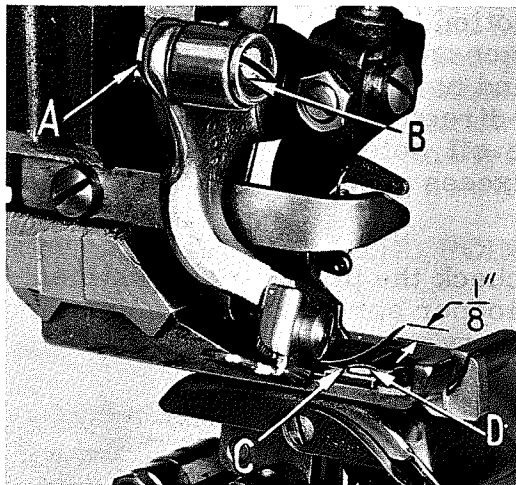

Fig. 7
Normal needle stroke setting is correct when the point protrudes approximately $\frac{1}{8}$ inch beyond the right edge of presser foot at the end of its right stroke (Fig. 7). Increase to approximately $\frac{5}{32}$ inch if a larger needle loop is required.
If adjustment of the needle stroke is necessary, loosen the lock-nut (A, Fig. 7) and turn screw (B) to the right or left as required. Tighten the nut. The needle should travel in the center of the groove in the needle guide (C, Fig. 7). If the needle is deflected from front to the back in its travel, loosen screw (D) holding the needle guide and allow needle to position the guide. Retighten the screw.